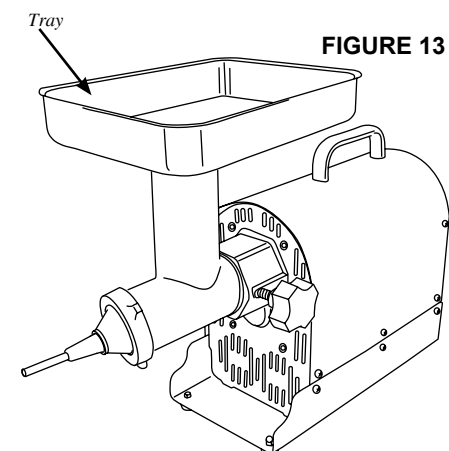

FIGURE 13
8. NEVER operate **Grinder** without the **Tray** secured in place (Figure 13).